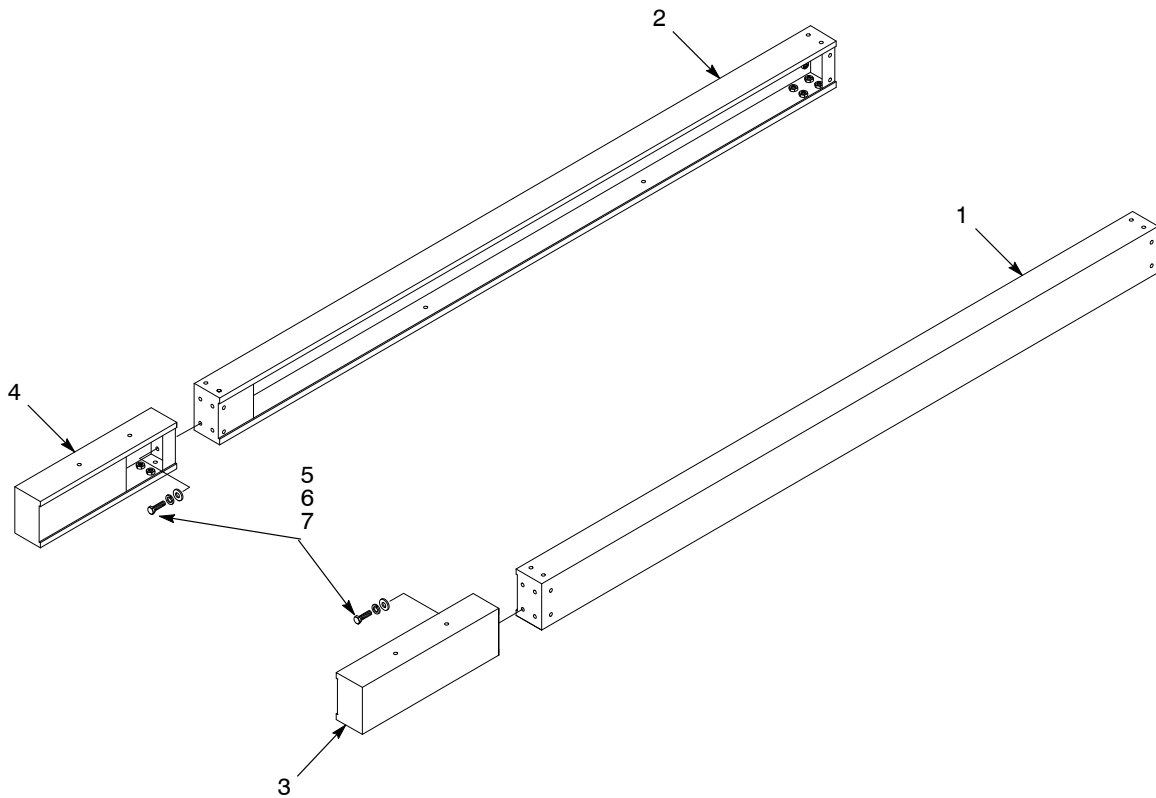

Figure 9-3 Split Support Beam Installation–Booths with Integral Booth Mover
See Figure 9-3.
3. Mount the right and left beam extensions (3, 4) to the end faces of the support beams, oriented as shown in Figure 9-3, with eight  $\frac{1}{2}$ -13 UNC cap screws, lock washers, and flat washers (5, 6, 7).